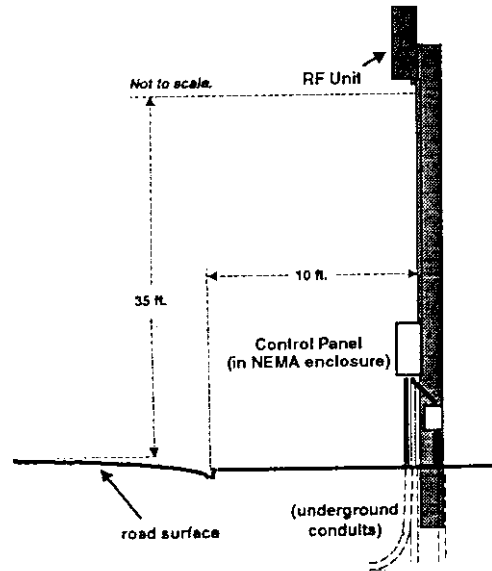

Figure 3-4 Positioning the RF unit
- with the face cover of the RF unit vertical, parallel to the pole, as shown in Figure 3-4